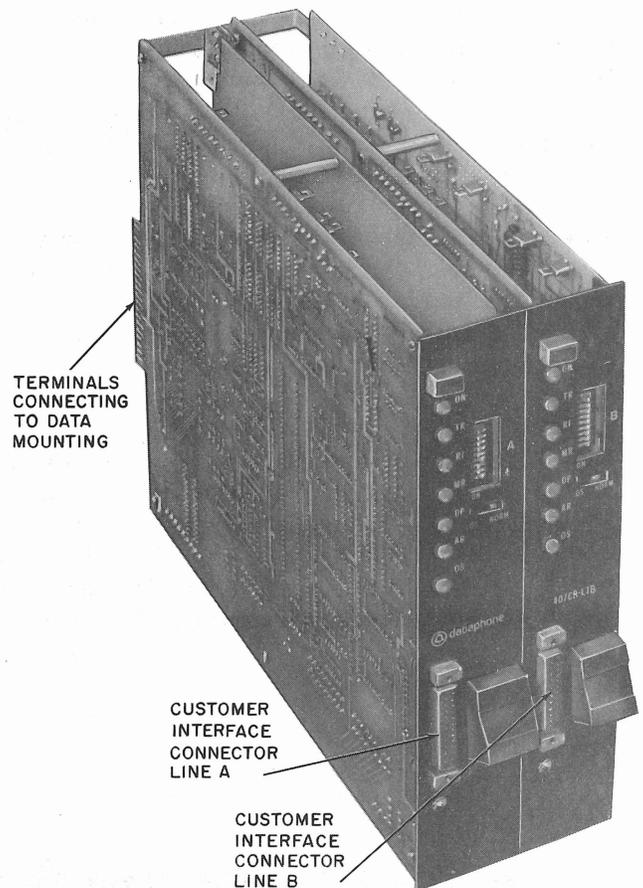

Fig. 3—Data Set 407CR-L1B—Overall View
2.02 DS 407CR (Fig. 3) consists of two circuit packs (CP1 and CP2) mounted together. Two KS-19087-type 25-pin connectors are located on the front of the data set, which provide the interface with customer-provided terminal equipment. Printed wiring board terminals are located on the rear of the data set which enable the data set to plug into the 57-type data mounting. The data set is 25 cm high, 33 cm deep, and 9 cm wide and weighs about 2.5 kg (10 in. high, 13.2 in. deep, 3.7 in. wide, and weighs about 5.5 pounds). The data sets require power sources of +12 volts, -12 volts, +5 and -5 volts, which are provided by the 229A power unit. DS 407CR is not interchangeable with any other data set.